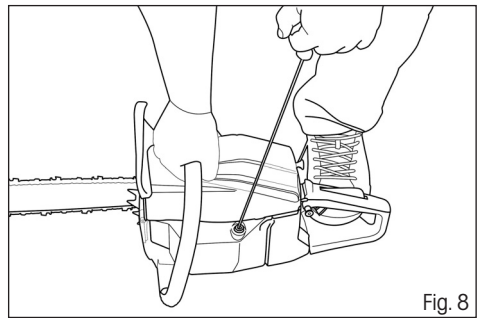

Fig. 8
3. Place the chain saw flat on the ground so that it is stable and pull on the handle of the starting cord until the engine rotates (the engine will show signs of attempting to start) (Fig. 8).
- Pull on the handle of the starting cord until the engine starts up (Fig. 8)